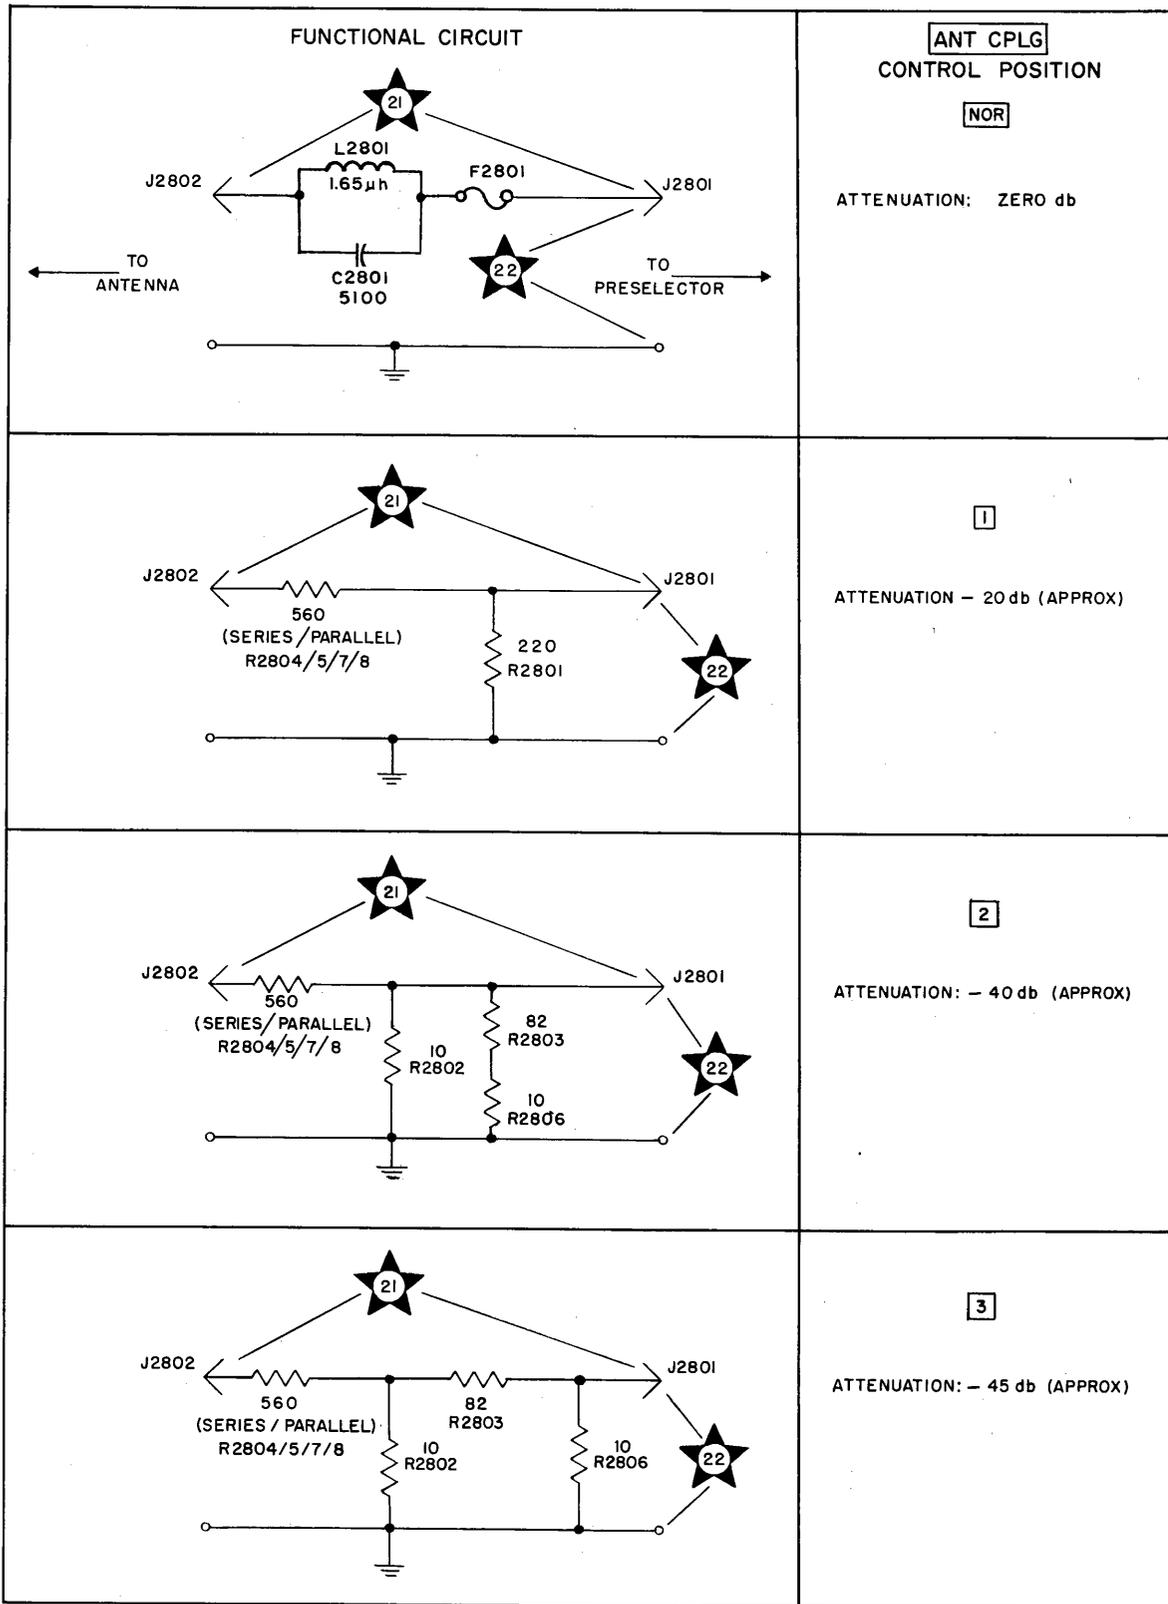

Figure 5-8. Antenna Coupler, Functional Schematic Diagram
a. FUNCTION.—The antenna coupler provides three steps of signal attenuation at the input of the receiver. It also contains a protective fuse (F2801) in series with the antenna circuit. Faulty coupler operation will reduce the strength of the signal, with the coupler in NOR. position a blown fuse will cut off the signal entirely, preventing reception. Figure 5-8 is a functional
e. ANTENNA COUPLER TROUBLE-SHOOTING.—Figure 5-8 shows separate functioning circuits for each position of the ANT. CPLG. switch. Disconnect